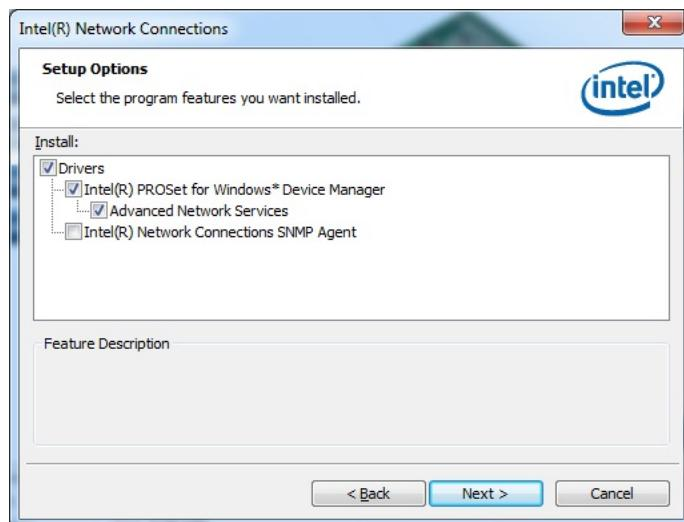

**Figure 6-10: LAN Driver License Agreement**
**Step 9:** The License Agreement in Figure 6-10 appears.